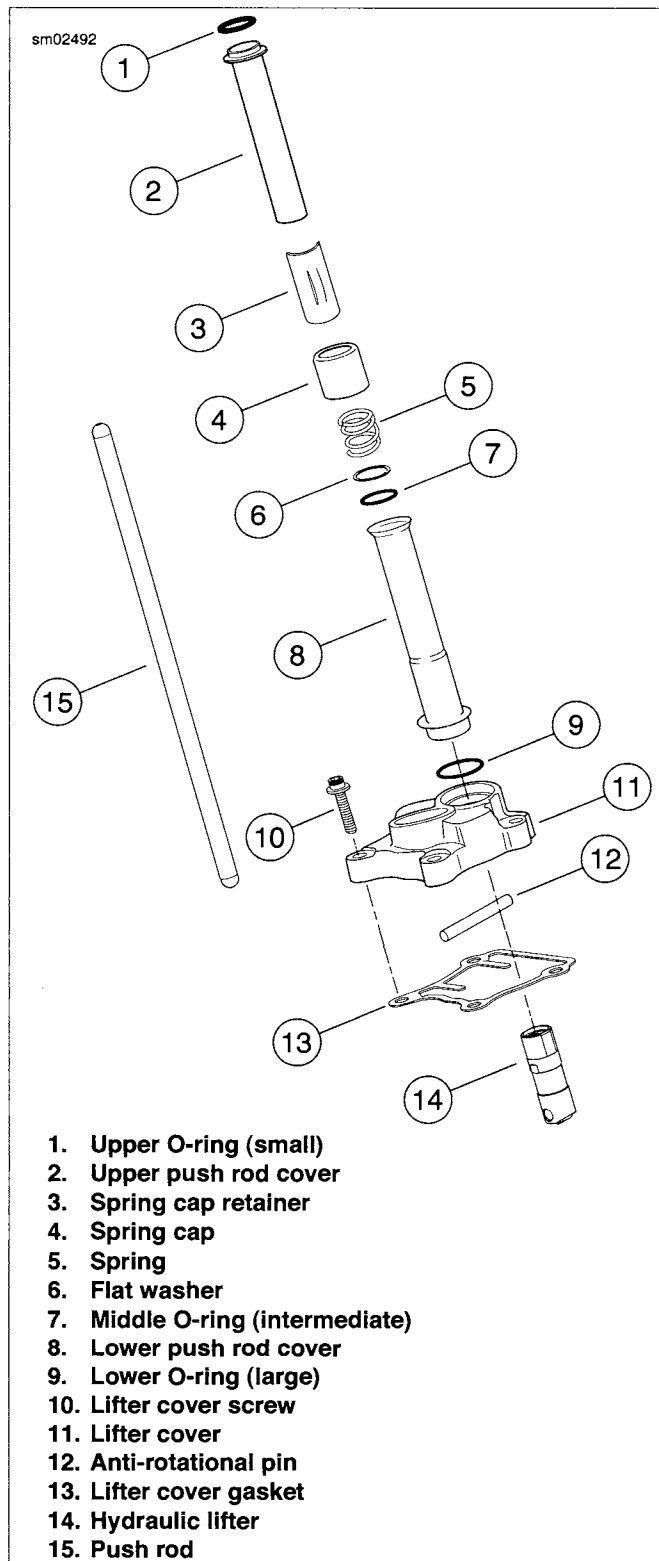

Figure 3-95. Push Rods, Lifters and Covers
See Figure 3-95. With the exception of the lifter covers, all parts should have been disassembled and marked during the removal procedure. Disassemble the lifter covers as follows:
1. See Figure 3-95. Scrape old gasket material from the lifter cover (11) flange. Old gasket material left on mating surfaces will cause leaks.
2. With the exception of the hydraulic lifters (14), clean all parts in a non-volatile cleaning solution or solvent. Verify that the O-ring seats and contact surfaces of the push rod covers (2, 8) are completely clean.